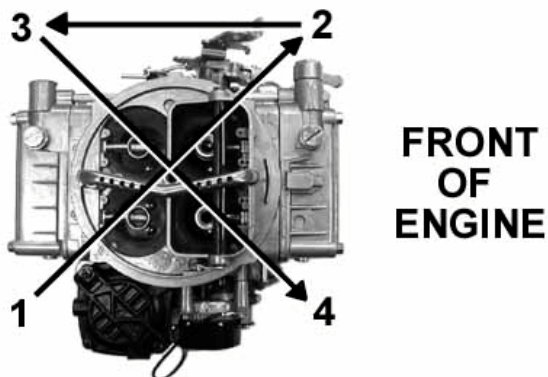

Figure 5
- Place the carburetor on top of the flange gasket on the manifold. Install the hold down nuts and snug down progressively in a "crisscross" pattern (60-80 in./lbs.), as shown in Figure 5.